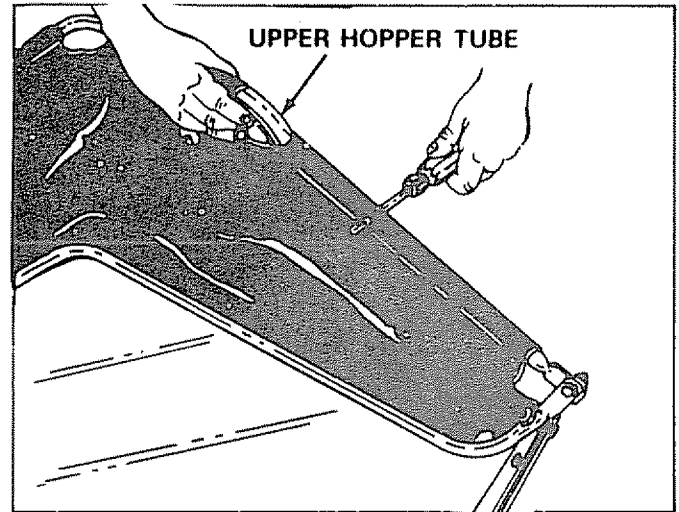

FIGURE 21
12. Locate hole along side of upper hopper tubes and pierce a hole through the bag aligned with the hole in the tube. See figure 21.